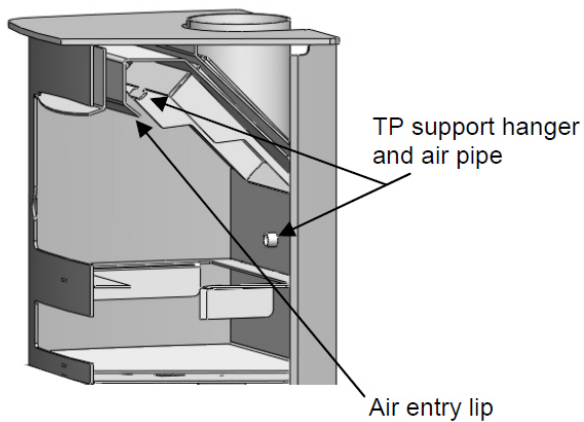

Figure 4: Throat plate support and secondary air pipe.
- Raise the throat plate assembly vertically out of the landing slots ensuring the front edge remains behind the front edge of the air wash lip, see fig 4.